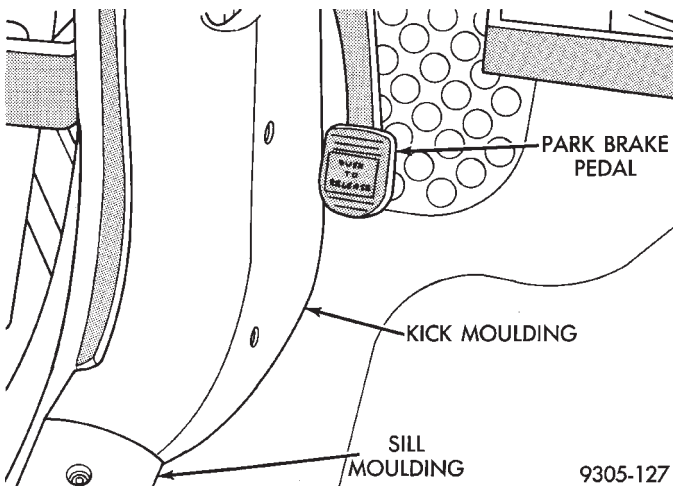

Fig. 27 Sill Molding And Cowl Area Molding
(3) Install drivers side cowl kick molding (Fig. 27). Install drivers side door opening sill molding (Fig. 27).
(4) Install lower dash panel assembly back in vehicle. Refer to Group 8 Electrical in this service manual for required procedure to install lower dash panel.
(5) Install upper center console cover assembly back in vehicle. Refer to Group 23 Body in this service manual for required procedure to install upper center console.
(6) Install shift knob on floor shifter (if equipped). Shift knob is installed by pushing shift knob down shift shaft until fully bottomed. Then install and tighten 3/32 in. allen head set screw located on drivers side of shift knob.
(7) Install drivers side seat assembly back in vehicle. Refer to Group 23 Body in this service manual for required seat, installation procedure.
(2) Install drivers side cowl area kick molding back in vehicle. Install drivers side door opening sill molding (Fig. 27).
(3) Install lower dash panel assembly back in vehicle. Refer to Group 8 Electrical in this service manual for required procedure to install lower dash panel.
(4) Install rear seat lower cushion back in vehicle. Refer to Group 23 Body in this service manual for required lower seat cushion, installation procedure.
(5) Install drivers side seat assembly back vehicle. Refer to Group 23 Body in this service manual for required seat, installation procedure.